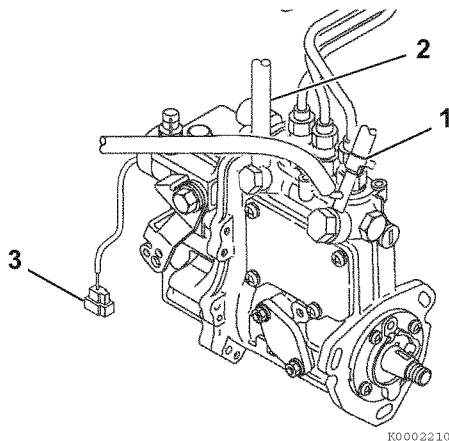

Figure 7-14
7. Disconnect the fuel return lines from the fitting on the fuel injection pump (1, **Figure 7-14**). Plug the open ends of the lines to minimize leakage and prevent contamination.
8. Remove the fuel supply line (2, **Figure 7-14**) from the fitting on the fuel injection pump.
11. Separate the stop solenoid wiring connector (3, **Figure 7-14**).